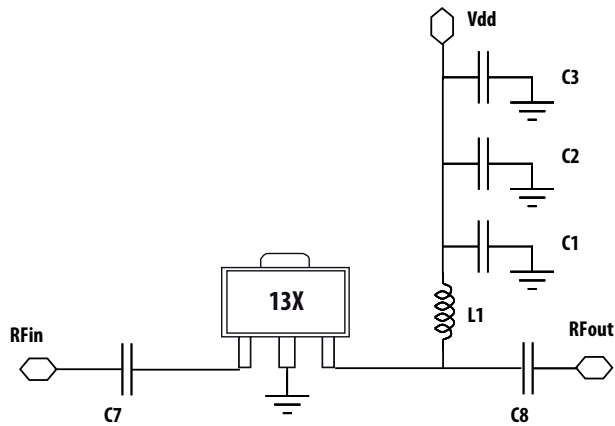

Figure 34. Circuit diagram
1. Measurements obtained from a test circuit described in Figure 34